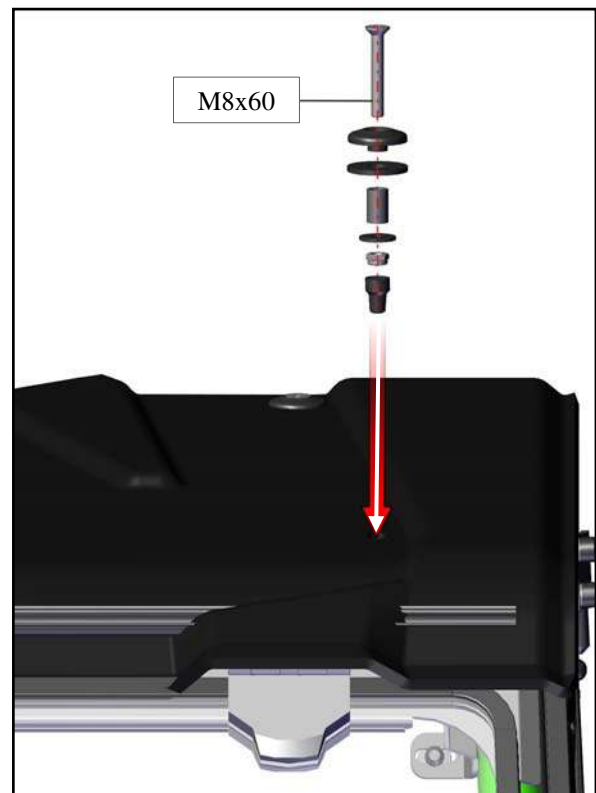

Fig. 5.5
5.5 Per fig. 5.5 (which shows the front of the roof), install the M8x60 bolt, hard plastic washer, and rubber washer from the outside as shown. On the inside will be the long spacer bushing, a steel washer, and locknut.